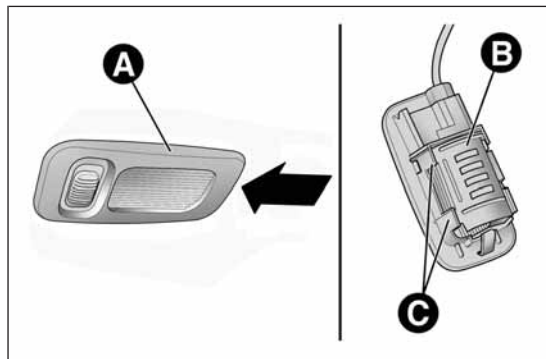

fig. 148
- ❑ lower the sun visor and remove courtesy light A fig. 148, applying leverage at the point indicated by the arrow;
- ❑ refit protection B fig. 148, inserting it correctly between tabs C;